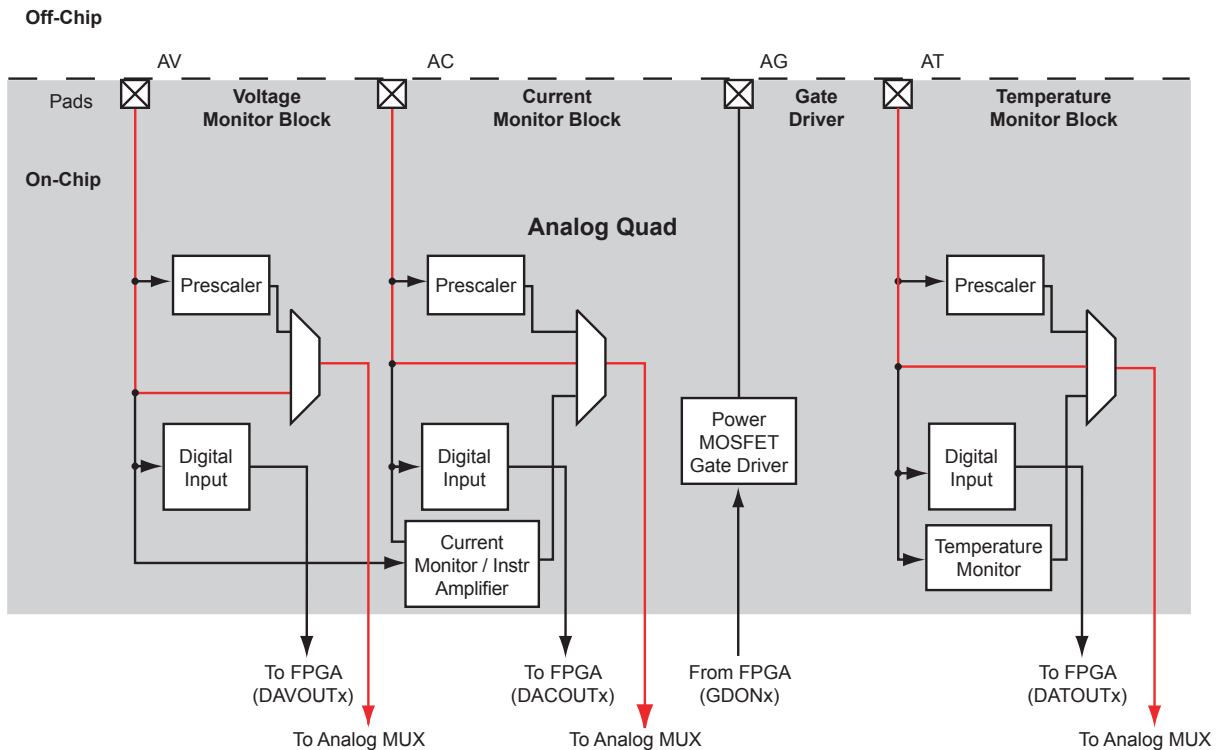

Figure 2-66 • Analog Quad Direct Connect
The Fusion Analog Quad offers a robust set of voltage-monitoring capabilities unique in the FPGA industry. The Analog Quad comprises three analog input pads—Analog Voltage (AV), Analog Current (AC), and Analog Temperature (AT)—and a single gate driver output pad, Analog Gate (AG). There are many common characteristics among the analog input pads. Each analog input can be configured to connect directly to the input MUX of the ADC. When configured in this manner (Figure 2-66), there will be no prescaling of the input signal. Care must be taken in this mode not to drive the ADC into saturation by applying an input voltage greater than the reference voltage. The internal reference voltage of the ADC is 2.56 V. Optionally, an external reference can be supplied by the user. The external reference can be a maximum of 3.3 V DC.